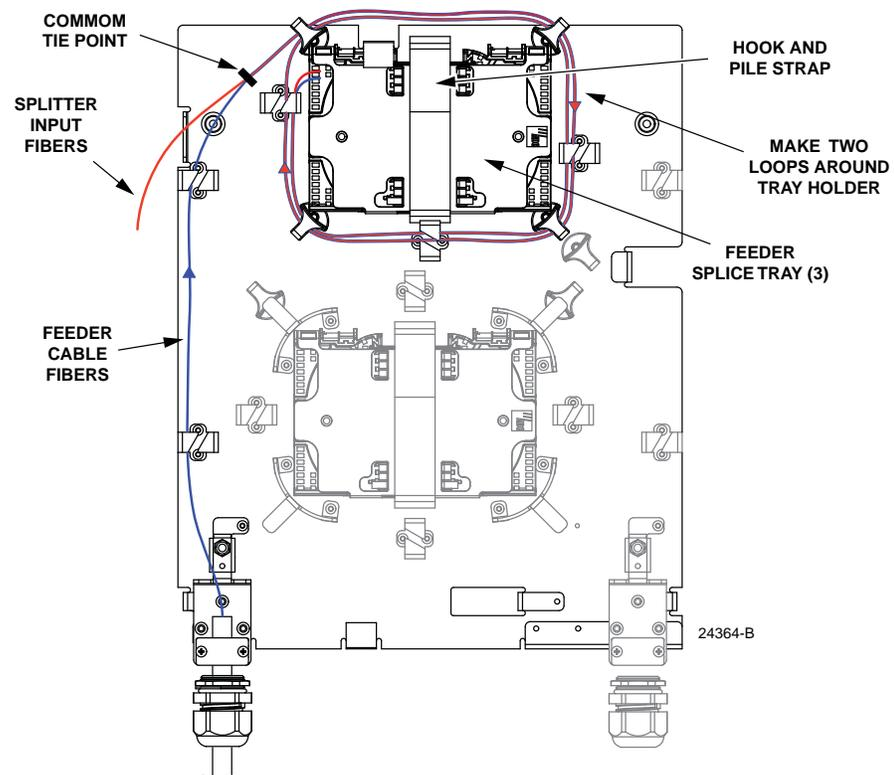

Figure 24. Feeder Splice Tray Installation
6. Re-install the splice tray in the cabinet as shown in Figure 24. Avoid twisting or kinking the fiber subunit tubes. Maintain a 1.5-inch (3.81 cm) minimum bend radius for all non reduced bend radius fiber.
6. Re-install the splice tray in the cabinet (see Figure 24). Avoid twisting or kinking the fiber subunit tubes. Maintain a 1.5-inch (3.81 cm) minimum bend radius for all non reduced bend radius fiber.